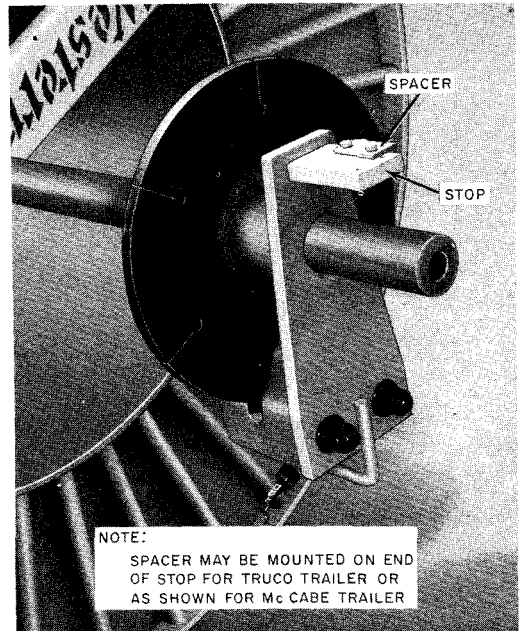

Fig. 4—Positioning Cable Reel Brake on Spindle
4.01 The cable reel brake should be mounted on the spindle bar of the cable reel trailer during the process of loading the cable reel on the trailer. After the spindle bar has been fitted into the center holes of the reel spokes, place the cable reel brake on the desired end of the spindle bar as shown in Fig. 4. If the brake is to be used with a TRUCO trailer, mount the spacer on the end of the stop. When using the brake on the McCABE-POWERS trailer place the spacer on the side of the stop to increase its effective width. When preparing to pay out cable, no centering cone or clamp is required on the spindle bar between the reel and brake or between the brake and trailer. However, when transporting the reel on the trailer it is desirable to have the reel centered and secured. Position the brake and spindle so the brake will not obstruct the normal reel-loading procedure.